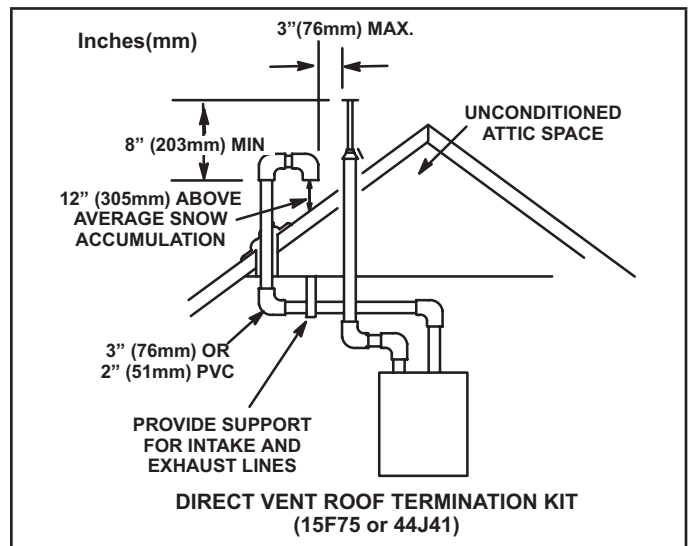
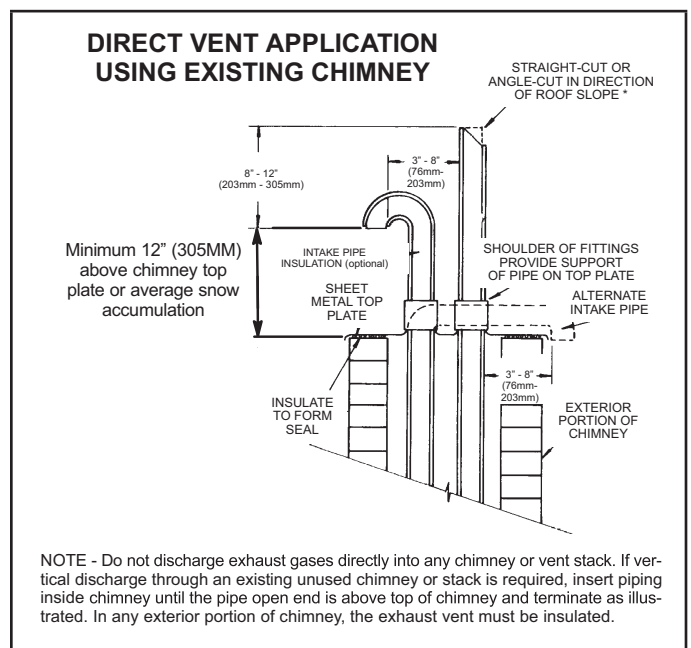

FIGURE 33
FIGURE 41
Intake and exhaust pipes may be routed either horizontally through an outside wall or vertically through the roof. In attic or closet installations, vertical termination through the roof is preferred. FIGURE 33 through FIGURE 41 shows typical terminations.
- 3 - On roof terminations, the intake piping should terminate straight down using two 90° elbows (See FIGURE 33).